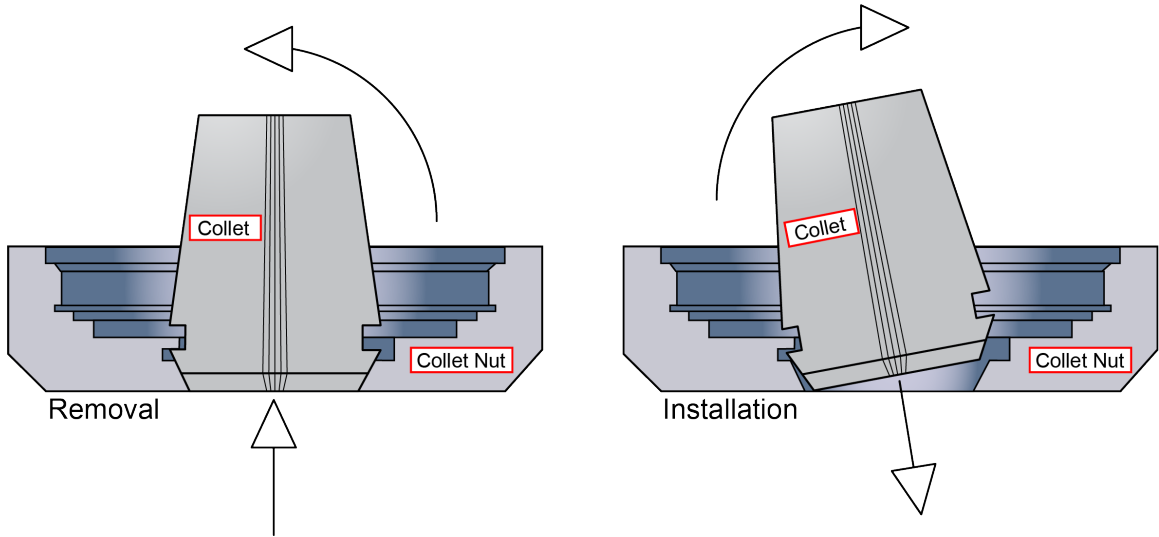

Figure 2-8: Inserting the Collet into the Collet Nut
- Step 5: Use the collet nut to guide the collet into the stage (Figure 2-8). Make sure that the collet is installed properly in its taper. Be sure that air pressure is still being supplied to the stage so the collet chuck is in the open position.